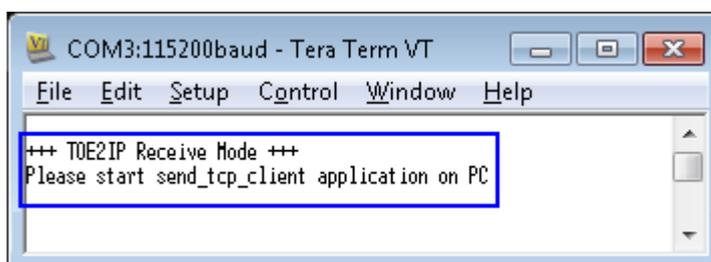

Figure 10 Message when run Receive Data Test
- (1) On Serial console, user inputs [1] or [R] key. After that, message as shown in Figure 10 is displayed.